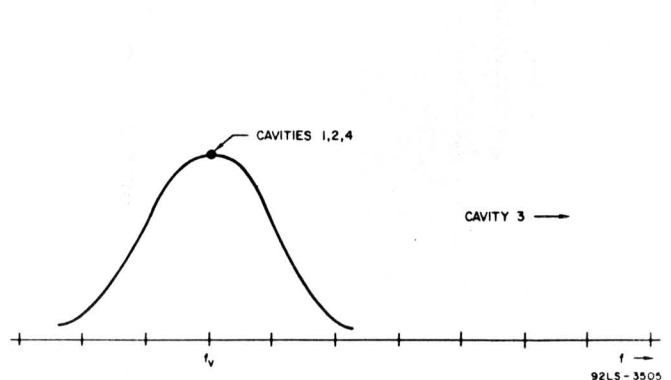

Figure 5 — Response Presentation after tuning Cavities 1, 2, 4 to carrier frequency
4. Tune cavities 1(input), 2 and 4 (output) to the carrier frequency. Reduce the drive level to avoid saturation. The oscilloscope display should be similar to **Figure 5**.